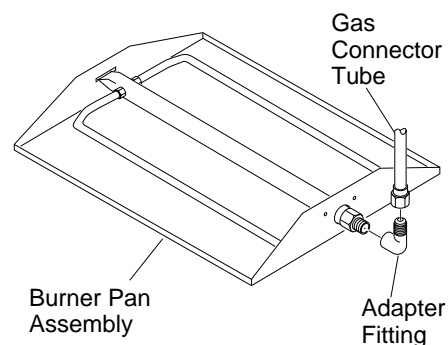

Figure 9 - Connecting Gas to Appliance
3. Install adapter fitting onto the burner inlet fitting using thread sealant on male threads of burner inlet fitting (see Figure 9). Adjust to most convenient position.